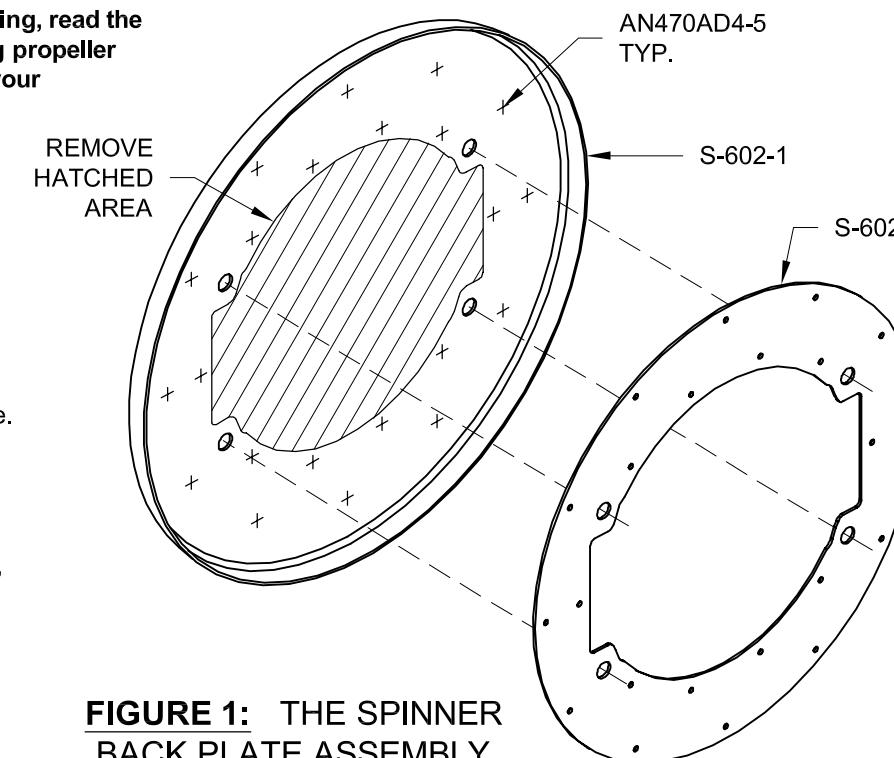

FIGURE 1: THE SPINNER BACK PLATE ASSEMBLY
Step 1: As shown in Figure 1, locate the S-602B Doubler Ring on the S-602-1 Spinner Back Plate using bolts through the four holes in both parts.
Step 2: Trace the inside perimeter of the S-602B Doubler Ring onto the S-602-1 Spinner Back Plate. Remove the doubler ring, then cut along the trace to remove the hatched area (shown in Figure 1) from the spinner back plate.
Step 3: Deburr the holes and edges of both parts, prime if/as desired, then rivet them together using the rivets called-out in Figure 1.